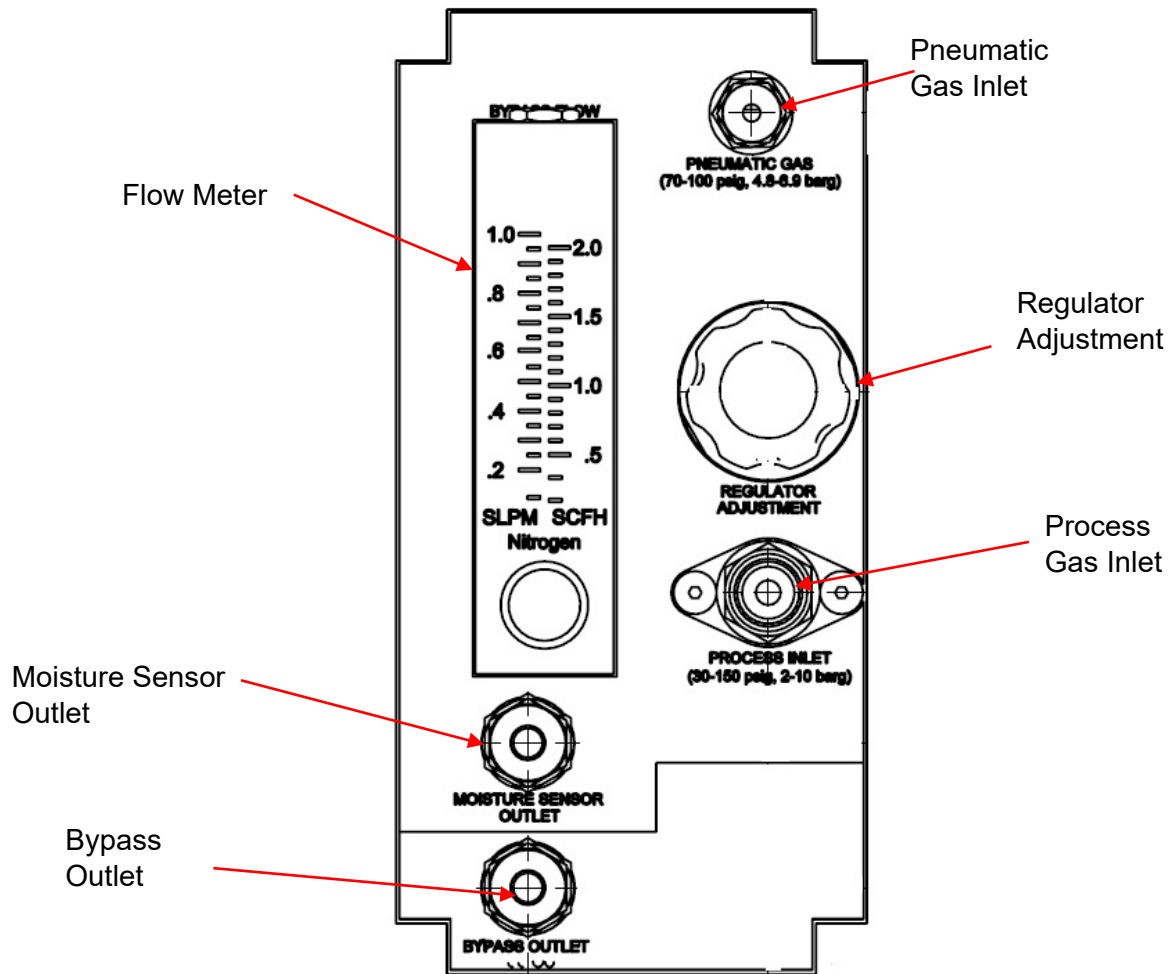

Figure 10: DF-750 Analyzer Gas Panel
2. If the analyzer is equipped with the optional Hydrogen Safety System (HSS), install the shut-off valve for the Hydrogen Safety System on the analyzer process gas inlet fitting. Use VCR gasket (see **Figure 9**) at connection point. Refer to **Figure 10** for analyzer gas connection locations.